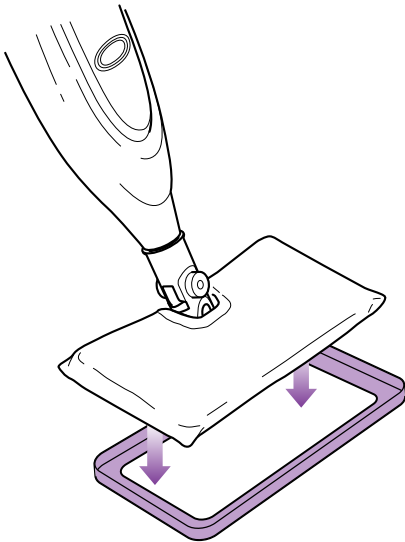

fig. 12
**1** The Carpet Glider can be used with the all-purpose head to lightly steam your carpet and area rugs. Just place the mop head with micro-fiber cleaning pad attached on top of the glider. The recommended steam setting is **SCRUB** when using the carpet glider. (**fig. 12**)